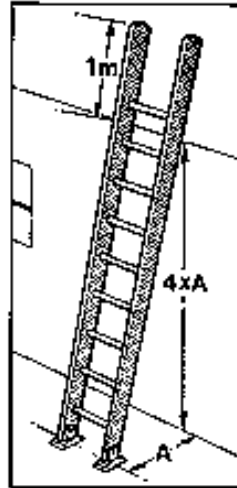

Figure 5: Correct slope
- it can be used at a slope no greater than four in one (see Figure 5).